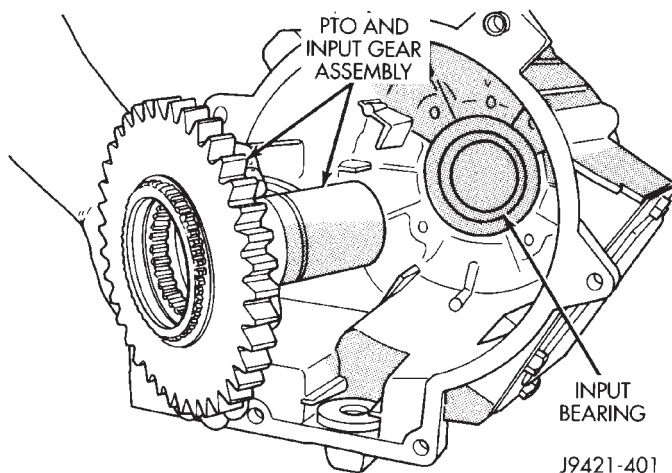

Fig. 37 Removing PTO/Input Gear Assembly
(24) Remove PTO and input gear assembly (Fig. 37). Lift assembly up and out of input bearing and case.